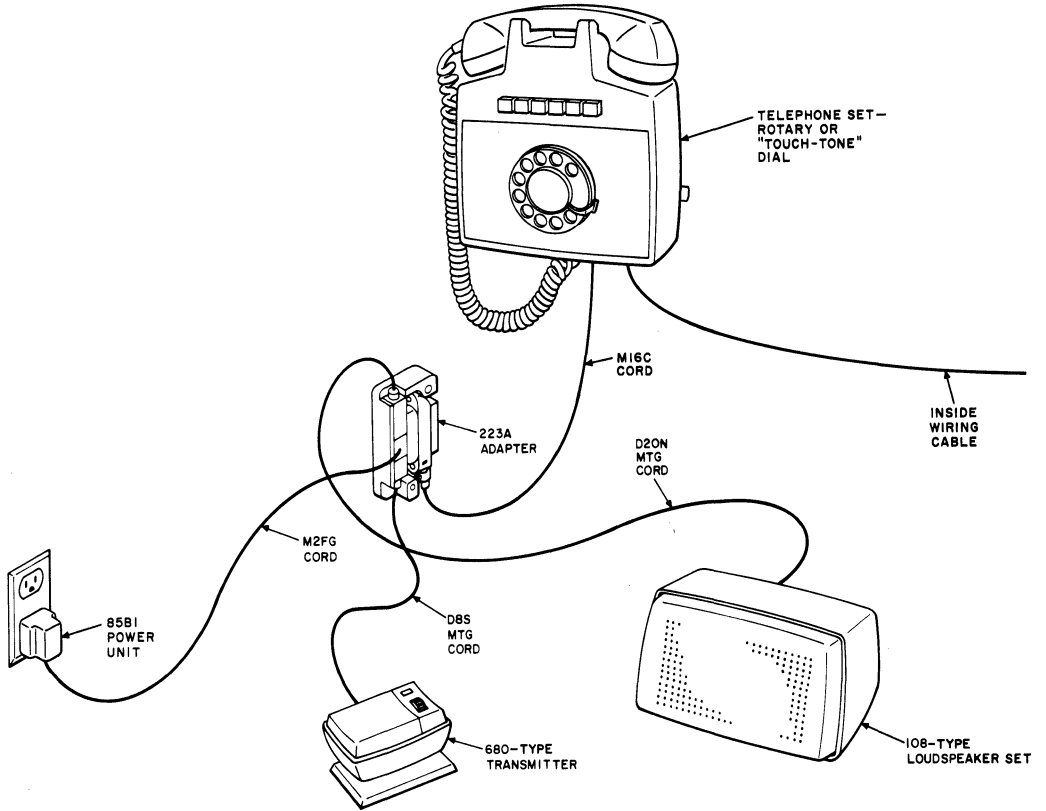

Fig. 1—Speakerphone Arrangement, 6-Button Wall Telephone Sets
**2.08** Power can be provided by making connections as shown in Fig. 1 and 2.